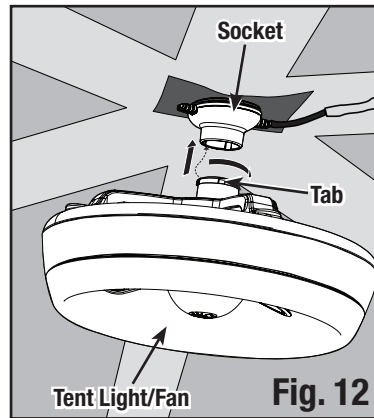

Fig. 12
- Align tabs on the Tent Light/Fan with the socket, and gently rotate clock-wise 1/4 turn to secure into position. (Fig. 12)